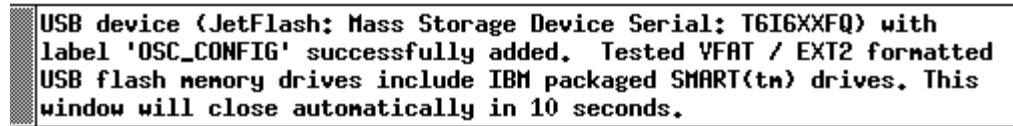

Figure 7-14 Removable media inserted
1. Before you export a source file, prepare the USB flash drive that is supported by the HMC, and insert it into the USB port of the HMC. When the flash drive is recognized by the HMC, the window shown in Figure 7-14 is displayed.
1. Before you import the source file, insert the USB flash drive that contains OSA-ICC source file. When the USB flash drive is recognized by the HMC, the window shown in Figure 7-14 on page 155 opens.